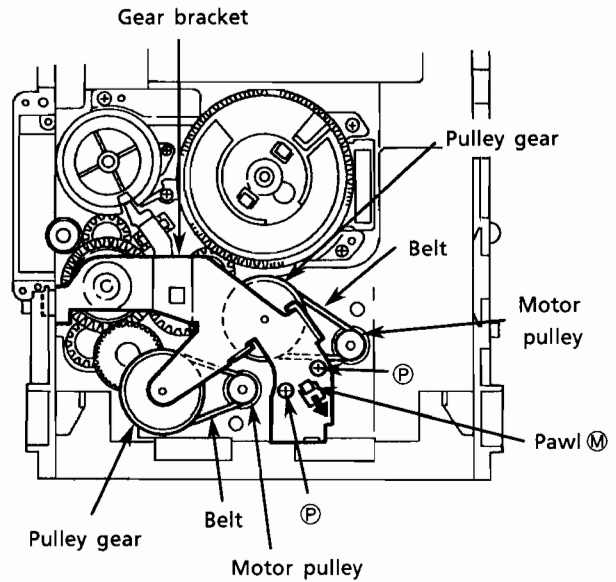

Fig. 44
(See Fig. 44.)
2. Press the pawl \textcircled{M} securing the gear bracket to the arrow in the figure to remove the gear bracket. (See Fig. 44.)
4. Remove each belts from the both actuator motor pulleys and the pulley gears. (See Fig.44.)